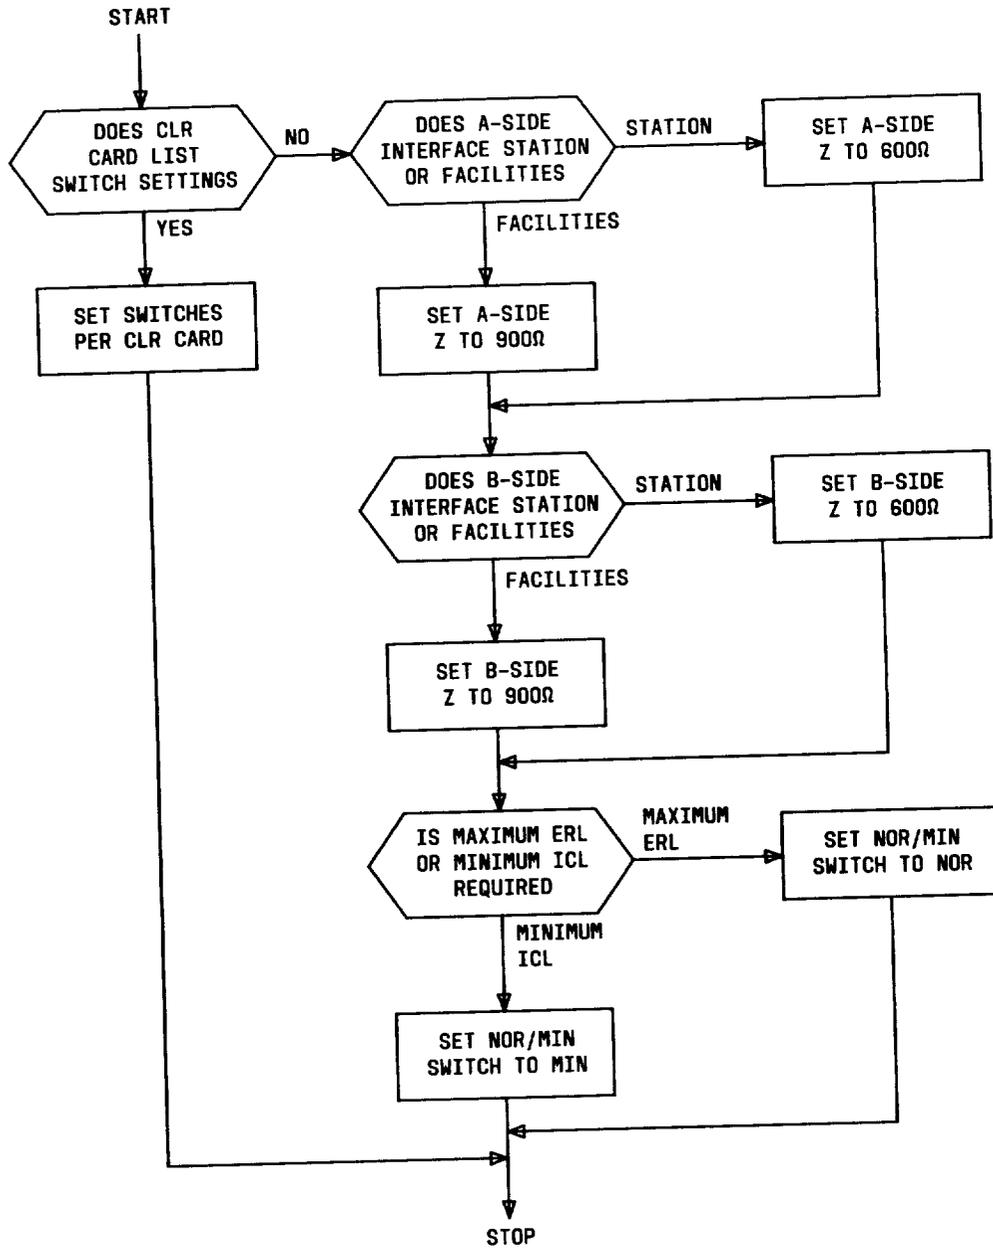

Fig. 3—Typical Switch Setting Decision Process for the J99343JA 2-W PLAR CFU
2.02 ♦Figures 1 and 2 show the location of the individual unit controls for the J99343JA and JB CFUs.♦ The initial settings are determined by circuit application and are to be provided by the local circuit layout organization. Figure 3 illustrates a typical decision process to aid in determining the initial switch settings of the JA CFU. The following paragraphs provide a brief description of the individual unit controls.